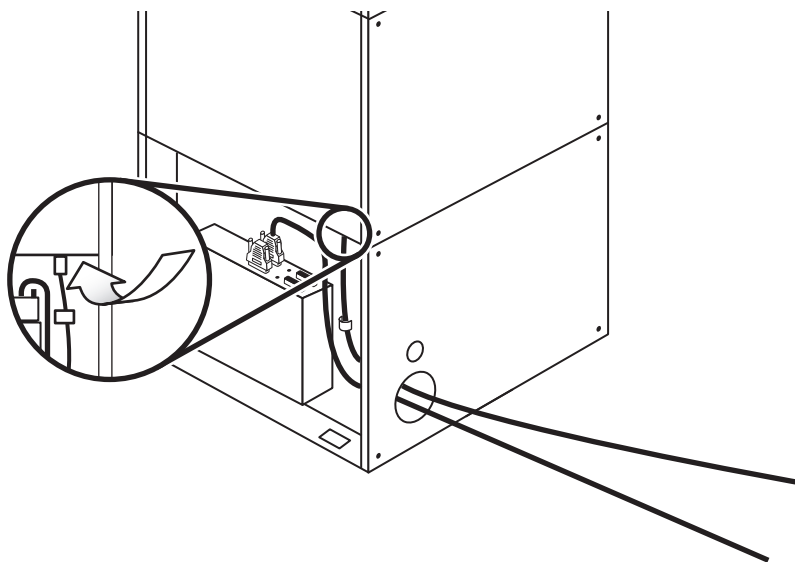

Figure 13: Connecting and routing the power cord
3. Plug the socket end of the power cord into the power receptacle on the bottom of the power distribution assembly (see Figure 13).
4. Route the power cord through the clip and close it securely around the cord (see Figure 13).
5. Continue routing down through the long cable slot at the bottom of the right side panel, and out through the access hole at the lower back of the jukebox (see Figure 13).